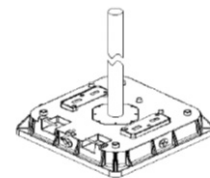

Fig. 2
- 3) Fix the light to the ceiling by the 3/4" conduit (Fig. 2)